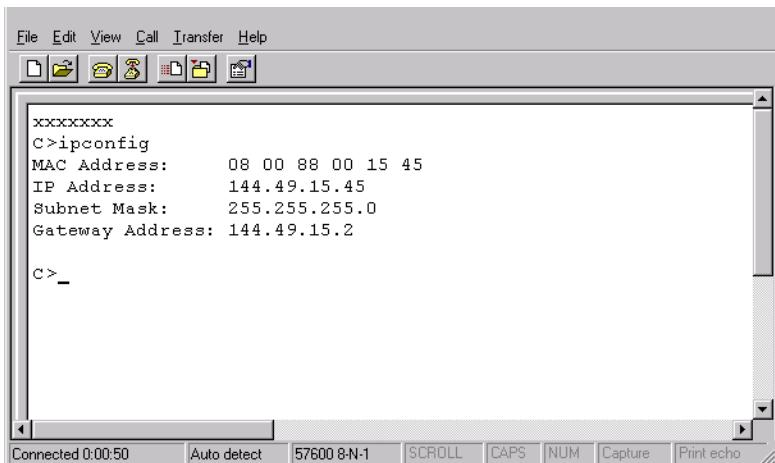

Figure 11 HyperTerminal window
8. At the > prompt, enter the user-level password (the default is *password*) and press **Enter**. The password is case sensitive. The HyperTerminal window is displayed with a C> prompt at the top of the window (Figure 11).